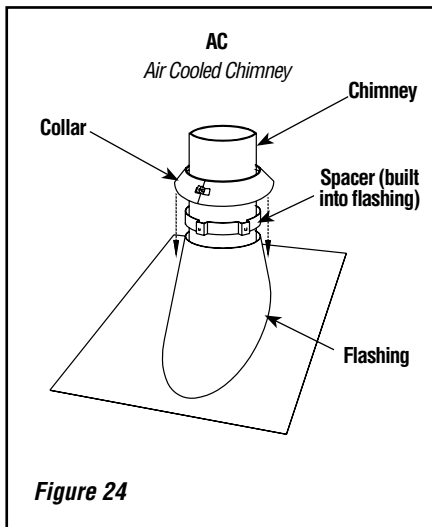

Figure 24
5. Then, put the roof flashing in place and seal the joint between the roof and the flashing with roofing pitch (see **Figures 24 and 25**). For sloping roofs, place the flashing under the upper shingles and on top of the lower shingles. Nail the flashing to the roof, using roofing nails.